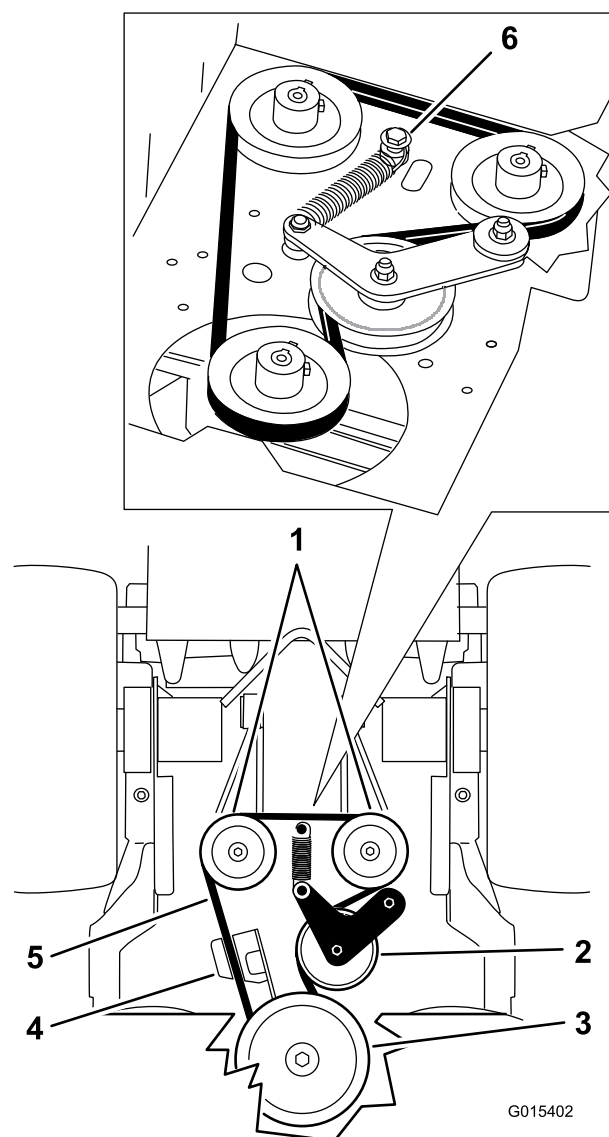

Figure 68
5. Remove the shoulder bolt, nut and washer from the engine deck and connected to the spring (Figure 68).
6. Remove the pump drive belt (Figure 68).
8. Install the spring onto the shoulder bolt and washer and connect it to the engine deck with the nut (Figure 68).